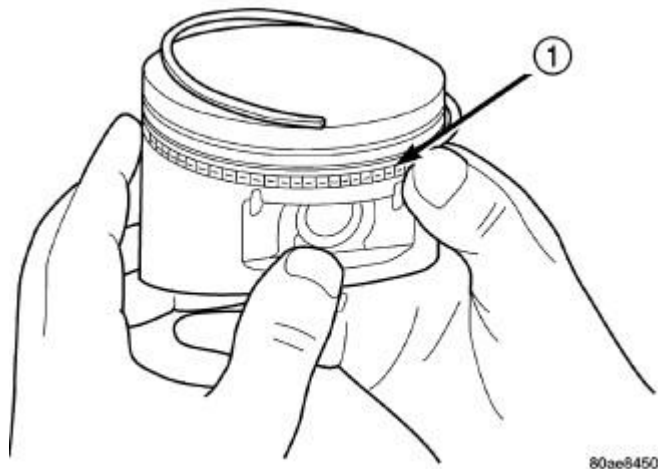

Fig. 357: Side Rail - Installation
2. Install the side rail by placing one end between the piston ring groove and the spacer. Hold end firmly and press down the portion to be installed until side rail is in position. **Do not use a piston ring expander tool during this step. Refer to Fig. 357.**